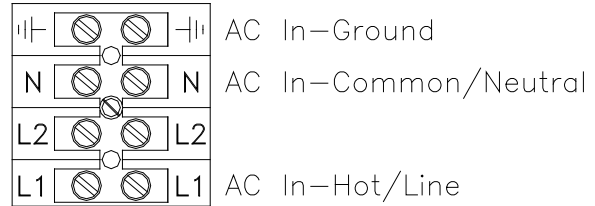

Figure 1: Terminal Block 1 (1TB)
2. Remove the AC Inlet Receptacle wiring from 1TB-L1, 1TB-N, and 1TB-Ground (see Figure 1 for AC input wiring locations).